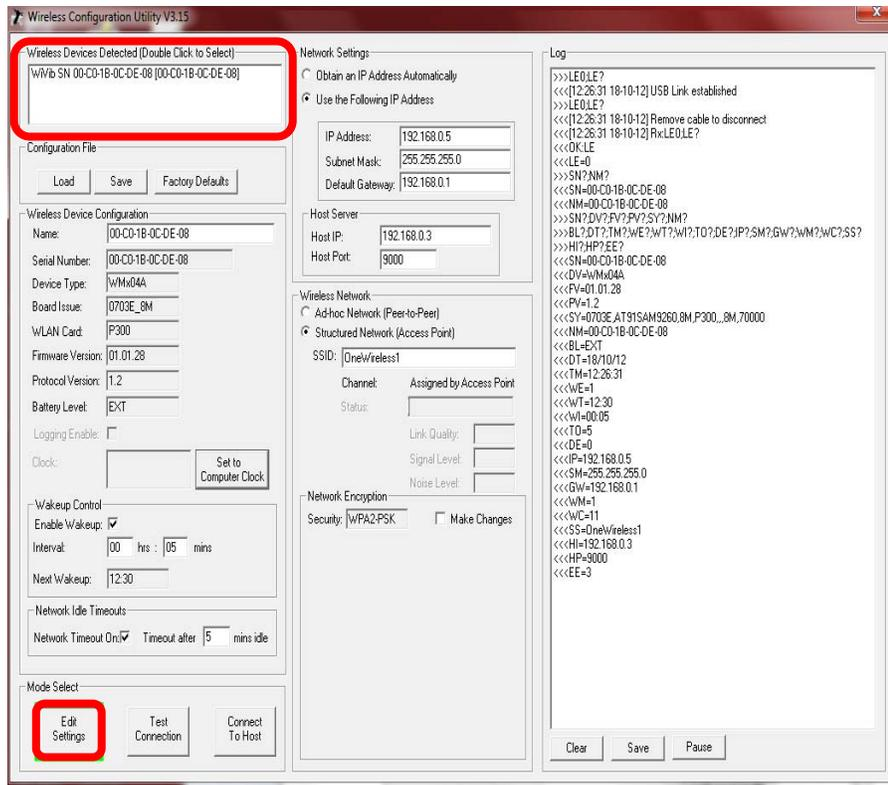

Figure 11. Wireless devices detected
- Once the device is connected, it will be displayed in the Configuration Utility under **Wireless Devices Detected**. [Figure 11] The device name can be changed from within the utility.